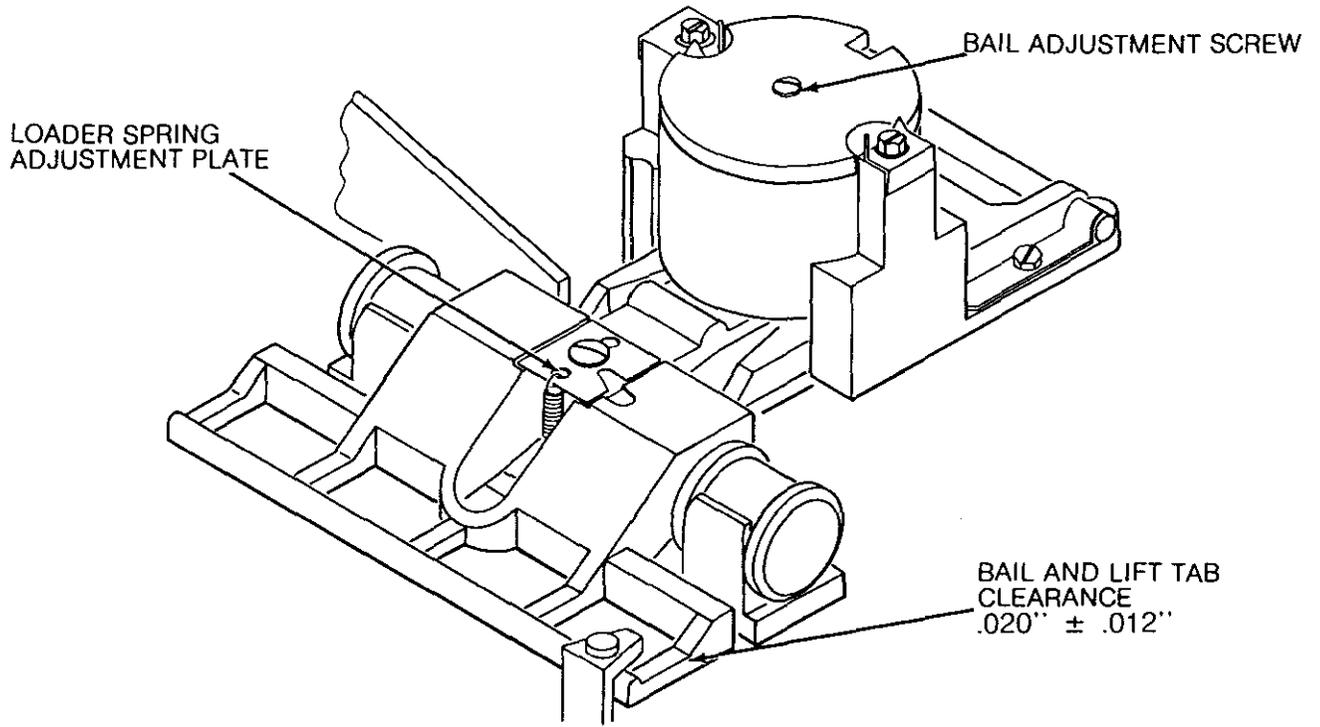

FIGURE 37. HEAD LOAD MECHANISM ADJUSTMENT
- b. Select the drive and insure the head is loading. With the head loaded a clearance of  $.020'' \pm .012''$  should be obtained between the bail on the head load solenoid and the lift tab on the head arm (see Figure 37). To adjust this clearance turn the screw located on top of the armature (see Figure 37). Clockwise will decrease the clearance and counter-clockwise will increase the clearance.
- (3) If the read signal begins sooner than 35 msec loosen screw holding the loader spring adjustment plate. Slide plate towards the solenoid body (see Figure 37). If the read signal begins after 50 msec, slide the plate away from the solenoid body.